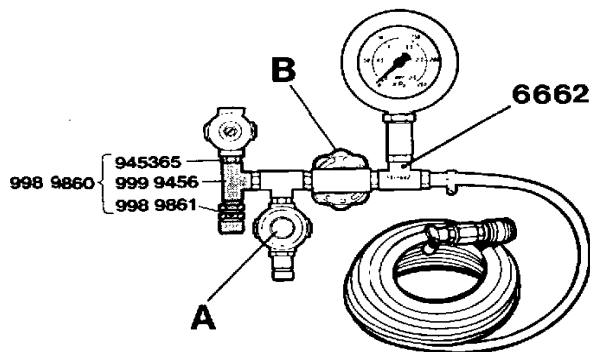

Fig. 36. Mounting of kit 998 9860 on the pressure-testing device 6662 (Sweden only).
\* **Only Sweden:** According to the Arbetarskyddsstyrelsens recommendations the pressure-testing device 6662 must be complemented with an extra relief valve. Besides the relief valve there is even a T-pipe and a double nipple. These parts are included in kit 998 9860. Check that the relief valve and other parts are assembled as in fig. 36.
1. Check that the knob on the relief valve (A, fig. 36) is screwed out and connect the test device to the compressed air system. Open cock (B) and adjust the relief valve until a pressure of 100 kPa (1.0 kp/cm2 = 14 p.s.i.) is indicated on the gauge.
2. Close cock (B). The pressure must not drop for a period of 2 minutes if the test device is to be regarded as reliable.
3. Check that the knob on the reduction valve (A, fig. 36) is screwed out and connect the hose from the pressure-testing device to the connector washer.
5. Connect the test device to the compressed air system and open cock (B).
6. Pull out the locking ring for the knob on the reduction valve. Increase the pressure by screwing in the knob until the pressure gauge shows 50 kPa (0.5 kp/cm2 = 7.1 p.s.i.). Maintain the pressure for 1 minute. Increase thereafter the pressure to 150 kPa (1.5 kp/cm2 = 21 p.s.i.). Lock the knob by pressing in the locking ring and close the cock (B). Check after 1–2 minutes if the pressure has reduced or if there are air bubbles in the water bath.